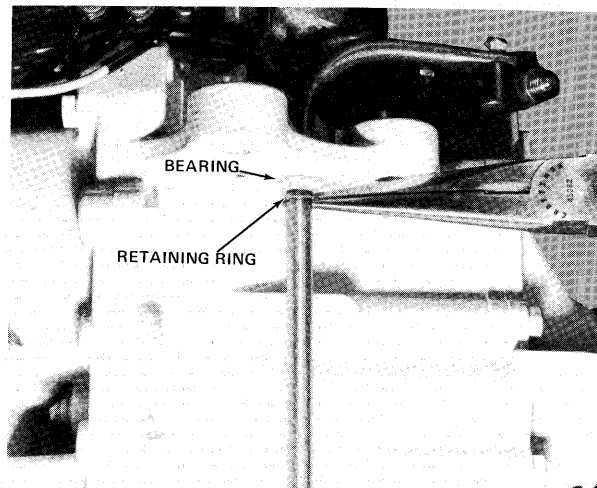

Figure 2C - Removing Retaining Ring
- C. Remove retaining ring from towershaft as shown in figure 2C.
- E. Remove two (2) screws securing towershaft and towershaft bearing to powerhead.
- B. Slide upper towershaft bearing in upper mounting hole. Position lower bearing over mounting bosses, install two (2) screws and tighten securely.
- C. Install retaining ring as shown in figure 2C.